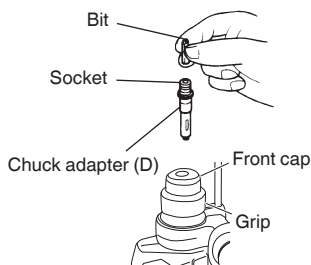

Fig. 10
4. When driving machine screws (Fig. 10)
5. When driving wood screws (Fig. 10)